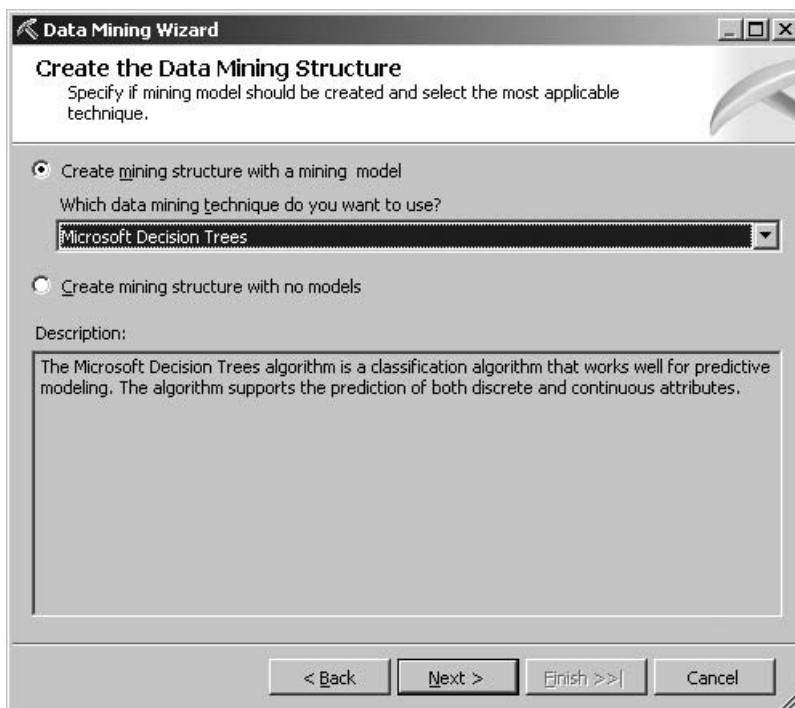

Figure 14-2 The Create the Data Mining Structure page of the Data Mining Wizard
14. Select the From Existing Cube radio button. Click Next. The Create the Data Mining Structure page of the wizard appears as shown in Figure 14-2.